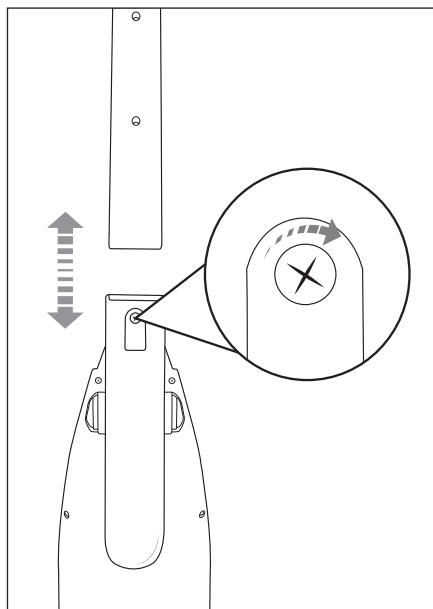

Fig. 2
- 1) Loosen the screw ⑫ at the back of the handle rod ⑪ with a Phillips screwdriver by turning it anticlockwise. Pull the screw ⑫ out of the screw opening on the handle rod ⑪.
- 2) Attach the handle rod ⑪ to the handle rod mount of the appliance. Push the handle rod ⑪ all the way onto the handle rod mount until it is firmly seated on the appliance. (Fig. 2).